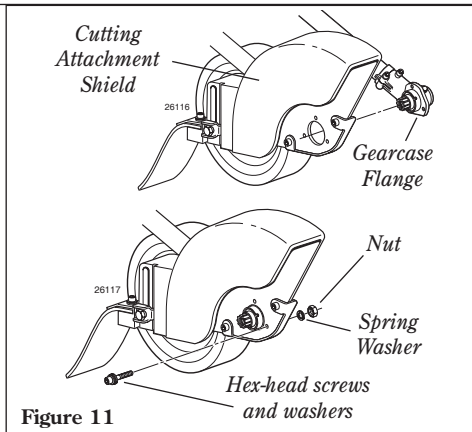

Figure 11
2. Align the cutting attachment shield assembly with the gearcase as shown, and then fit the shield onto the matching flange on the gearcase. See Figure 11.
3. Install the hex-head screws with washers, then use the hex wrench to firmly tighten all three screws. See Figure 11.
4. Install a washer and nut on each of the three screws assembled in Step 3, then firmly tighten each nut. See Figure 11.